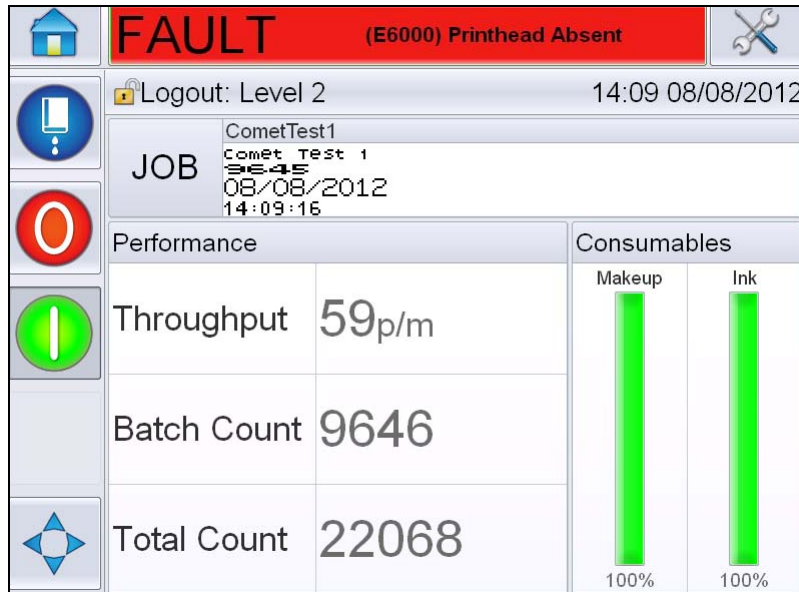

Figure 7-5: Fault Display
- 1 Touch the red *FAULT* message to view the list of faults (Figure 7-5 on page 7-8).